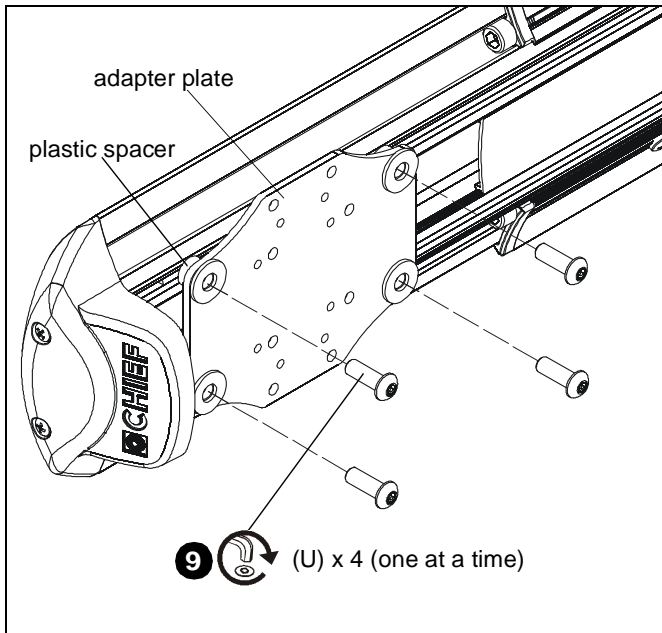

Figure 47
9. Install one 1/4-20 x 3/4" button head security screw (U) into hole vacated by removing bolt in Step 8 and into plastic spacer. (See Figure 47)